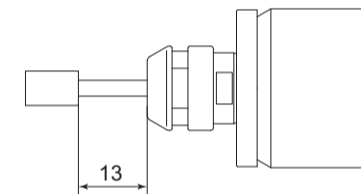

Fig. 11
- Do not exceed 13mm of overhang for mounted grindstones as shown in Fig. 11. If the overhang must exceed 13mm, reduce the motor speed in accordance with Table 2.